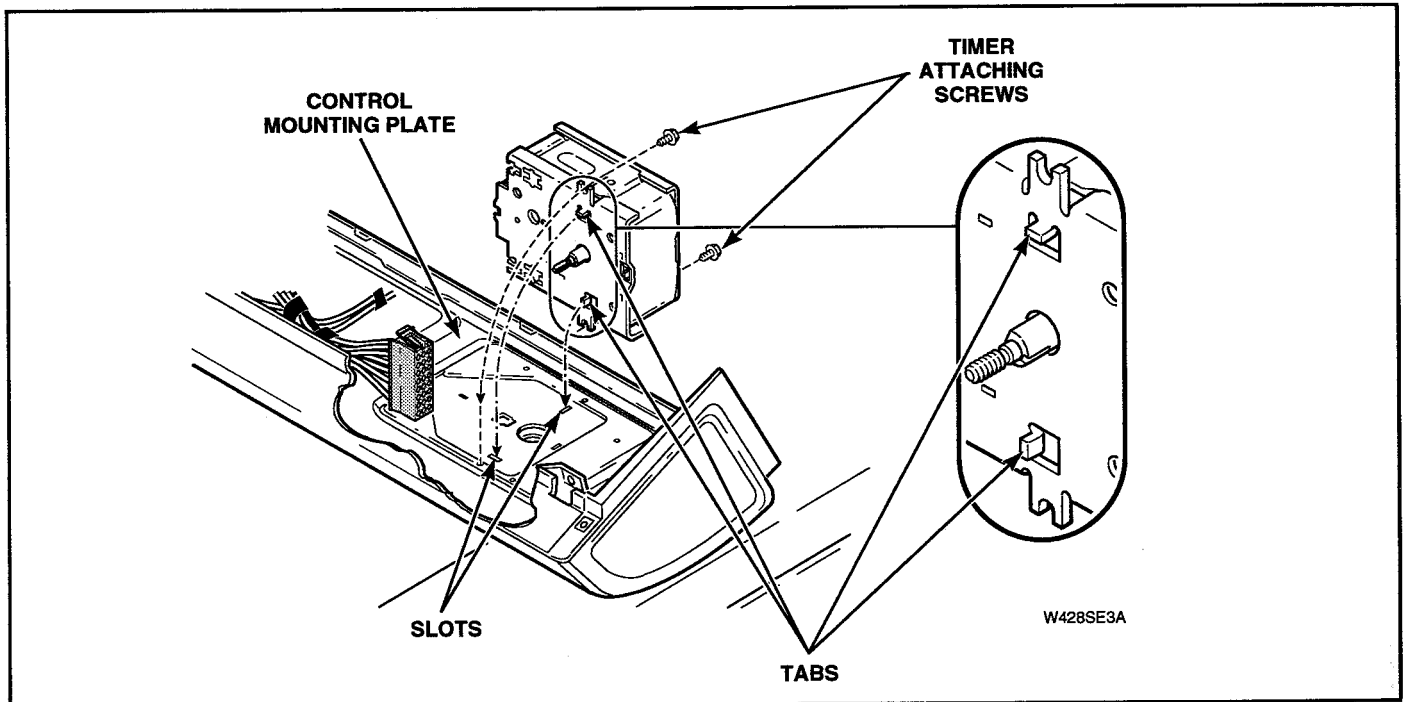

Figure 5-5
NOTE: When installing timer, make sure timer is installed correctly and is securely mounted to control mounting plate. See Figure 5-5.
- f. Seat horizontal and vertical tabs on front plate of timer completely into slots on control mounting plate. See Figure 5-5.